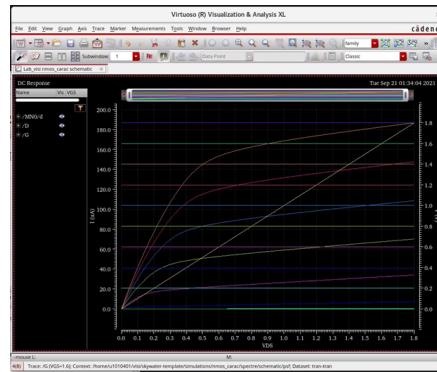

Figure 14: I-V curves for different VGS.
- (b) Run your simulation by clicking on the green triangle button from the parametric analysis window and observe the different I-V curves, as depicted in Fig. 14.